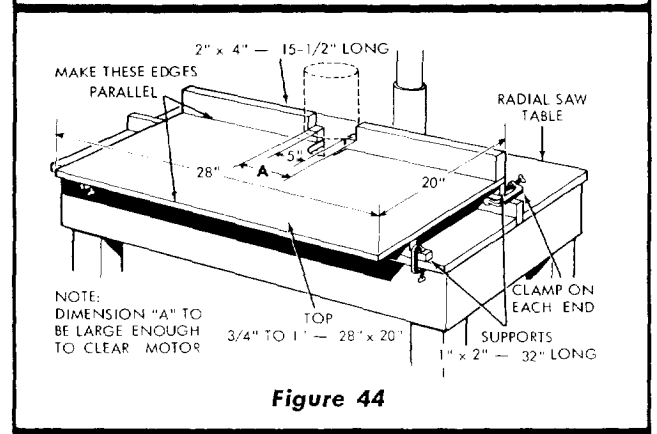

Figure 44
9. An auxiliary table top for molding or shaping may be constructed similar to the one shown in figure 44. Notice the shape of the back guide fence which has a cut-out 5-inches wide at the center to provide adequate clearance for the molding head and cutters. Also, a wider clearance (marked "A") should be cut out to allow for the saw motor. Make sure the front edge of the auxiliary table is parallel with the forward surface of the guide fence. The auxiliary table top can be attached to a work bench with "C" clamps.